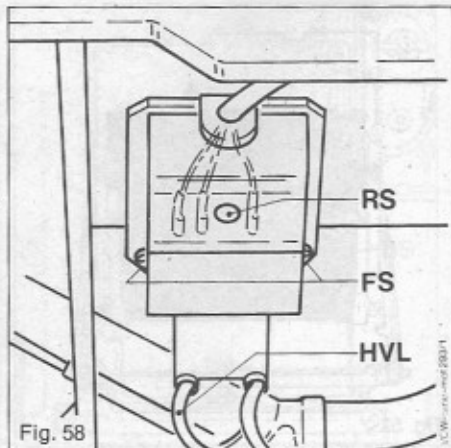

Fig. 58
14.6.7 Change of ignition transformer (Fig. 58)
Gently rotate box to gain access to the ignition transformer and remove retaining screw (RS, fig. 58).